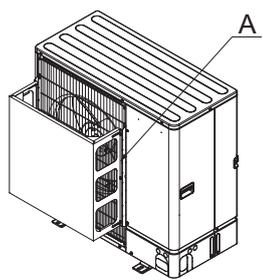

Fig. 1-4
- (2) Install an air guide if the unit is installed in a location where strong winds from a typhoon, etc. may directly enter the air outlet. (Fig. 1-4)